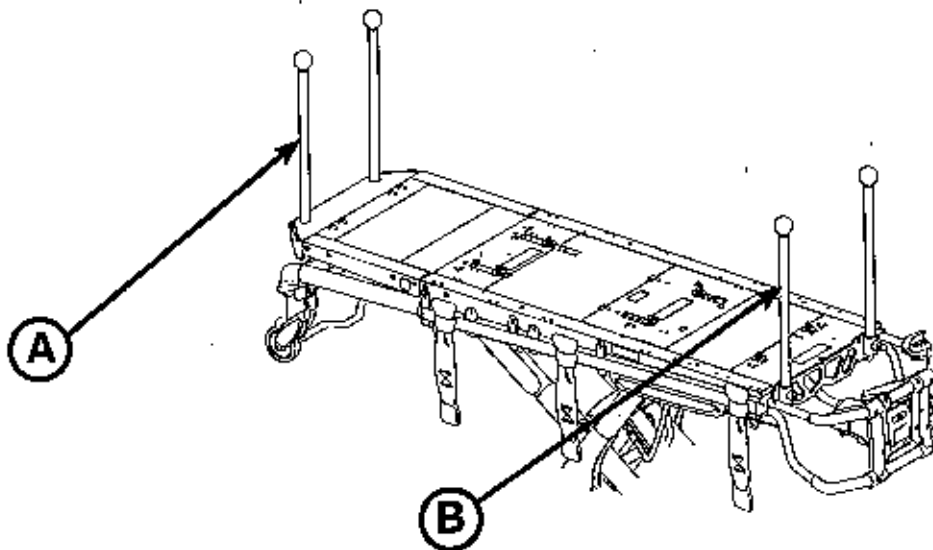

Figure 45
Use the rigid push bars to enhance emergency mobility through sturdy push points while maintaining solid stability. Push bars are available for installation at both the head end (A) and foot end (B) of the cot as shown in Figure 45.